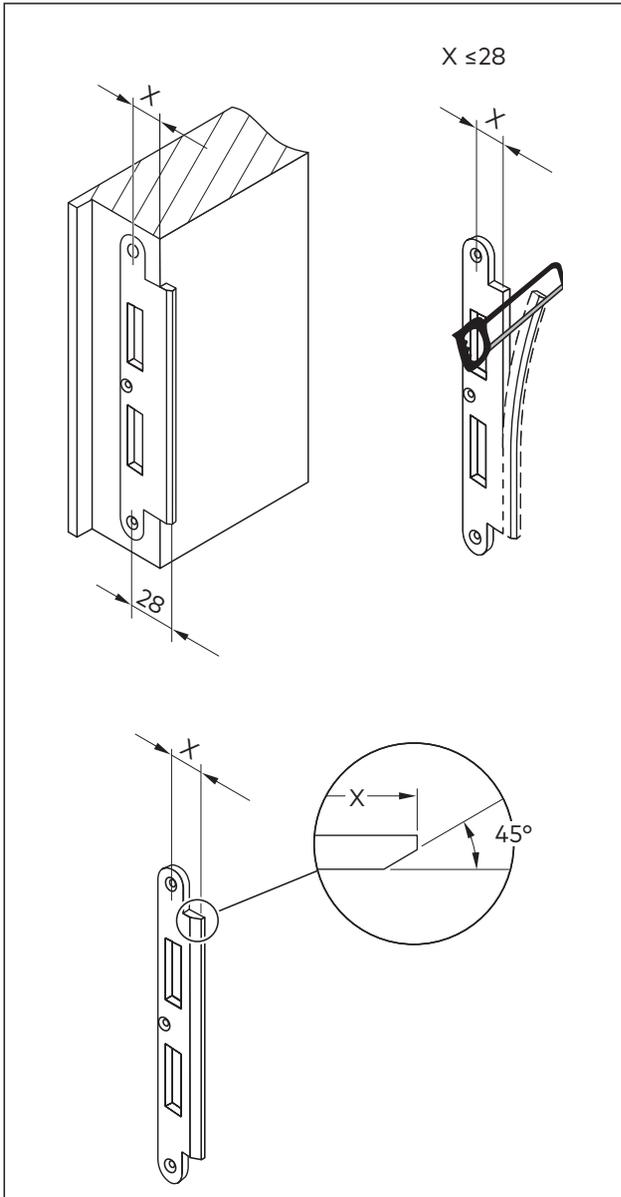

Fig. 26 Dimensions of the adjustments
6. Adjust the striking plate (Fig. 26).